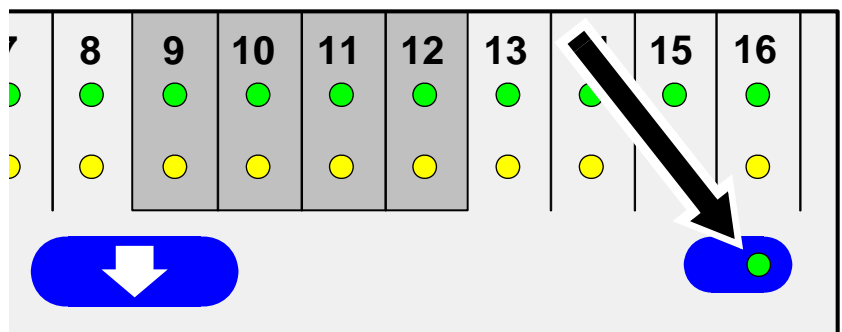

Figure 5-24. Agilis magazine status LED.
2. Wait until the green magazine status LED in the bottom right corner of the front panel is off, see Figure 5-24.